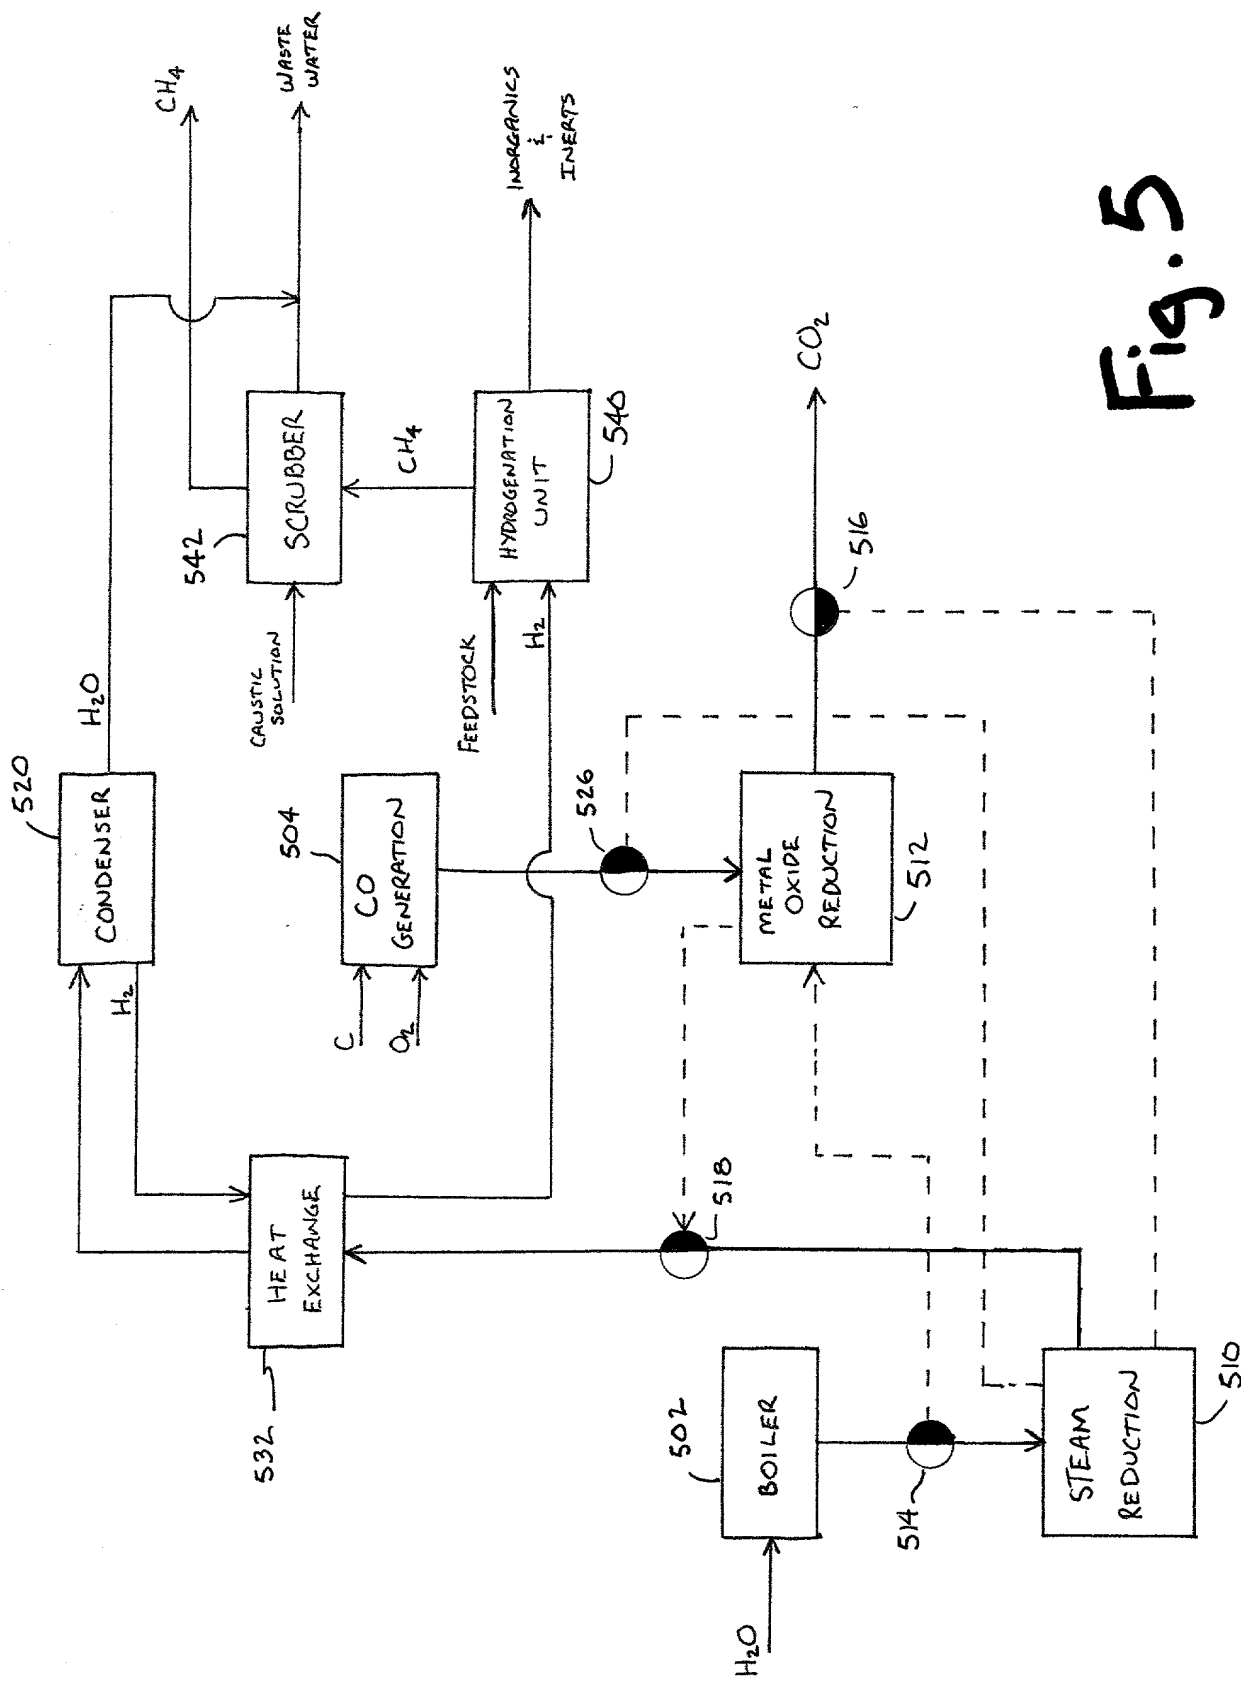

Fig. 5
FIG. 5 is a schematic diagram of a process for the production of hydrogen gas from a feedstock. The process includes a feedstock input to a hydrogeneration unit (540), which produces hydrogen gas (H2) and a stream of inorganics and inert materials. The hydrogen gas is fed into a CO generation unit (504), which also receives carbon (C) and oxygen (O2) inputs. The CO generation unit (504) produces a stream of CO and a stream of H2. The CO stream is fed into a metal oxide reduction unit (512), which produces a stream of CO2 and a stream of H2. The H2 stream from the metal oxide reduction unit (512) is fed into a steam reduction unit (510), which produces a stream of H2 and a stream of H2O. The H2O stream is fed into a boiler (502), which produces a stream of H2O. The H2O stream from the boiler (502) is fed into a heat exchanger (532), which preheats the feedstock before it enters the hydrogeneration unit (540). The heat exchanger (532) also receives a stream of H2O from a condenser (520). The condenser (520) receives a stream of H2O from the hydrogeneration unit (540) and a stream of H2 from the CO generation unit (504). The condenser (520) produces a stream of H2O and a stream of CH4. The CH4 stream is fed into a scrubber (542), which produces a stream of waste water and a stream of CH4. The scrubber (542) also receives a stream of caustic solution. The process is controlled by a control system (516) that monitors the flow of materials and adjusts the process parameters accordingly.